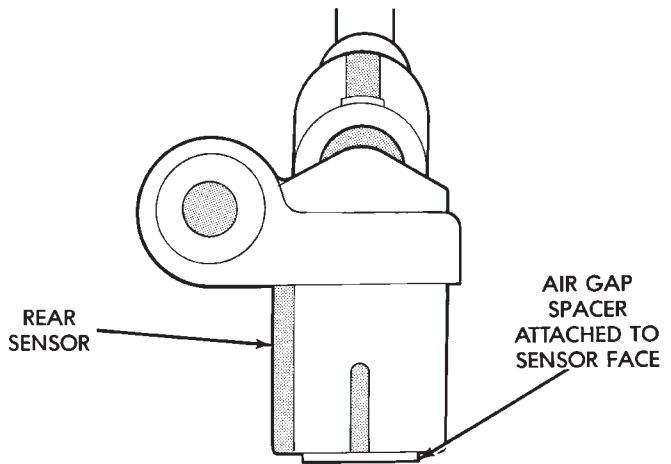

Fig. 7 New Rear Sensor With Air Gap Spacer
- (b) If **new sensor** is being installed, push cardboard spacer on sensor face (Fig. 7) against tone ring. Then tighten sensor bolt to 8 N·m (6 ft. lbs.) torque. Correct air gap will be established as tone ring rotates and peels spacer off sensor face.